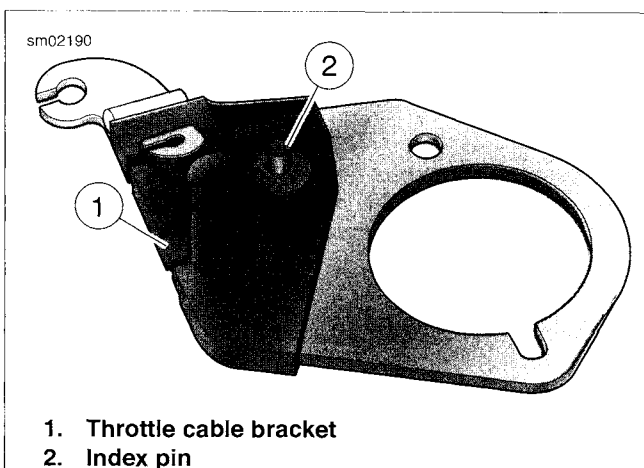

Figure 4-25. Throttle Cable Bracket
4. See Figure 4-25. Insert index pin (2) at bottom of throttle cable bracket (1) into hole in boss at top of induction module.